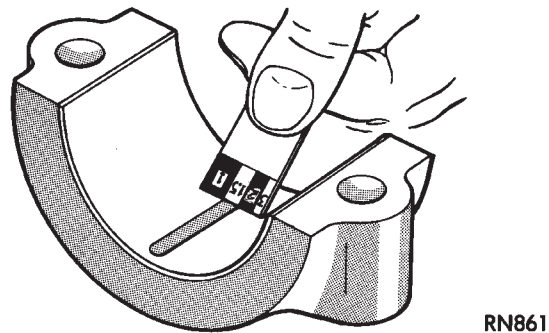

Fig. 3 Clearance Measurement
the package (Fig. 3). Plastigage generally comes in 2 scales (one scale is in inches and the other is a metric scale). Locate the band closest to the same width. This band shows the amount of clearance. Differences in readings between the ends indicate the amount of taper present. Record all readings taken (refer to Engine Specifications).
(4) Remove the bearing cap and compare the width of the flattened Plastigage with the scale provided on the package (Fig. 3). Plastigage generally comes in 2 scales (one scale is in inches and the other is a metric scale). Locate the band closest to the same width. This band shows the amount of clearance. Differences in readings between the ends indicate the amount of taper present. Record all readings taken (refer to Engine Specifications).
(5) Plastigage is available in a variety of clearance ranges. The 0.025-0.076 mm (0.001-0.003 inch) range is usually the most appropriate for checking engine bearing clearances.